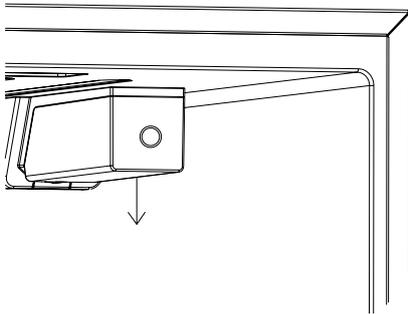

Figure 1
1. Units are shipped with a water filter already installed for immediate use. To replace the filter, press in the button on the front of the filter cover and move the filter cover downward (*Figure 1*).